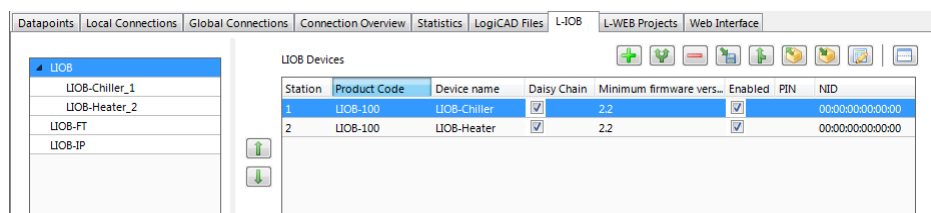

Figure 18: Add L-IOB devices to the LIOB-Connect bus
1. Add L-IOB devices on the **L-IOB** tab from the supplied L-IOB templates using the **Add Device(s)** button  as shown in Figure 18.